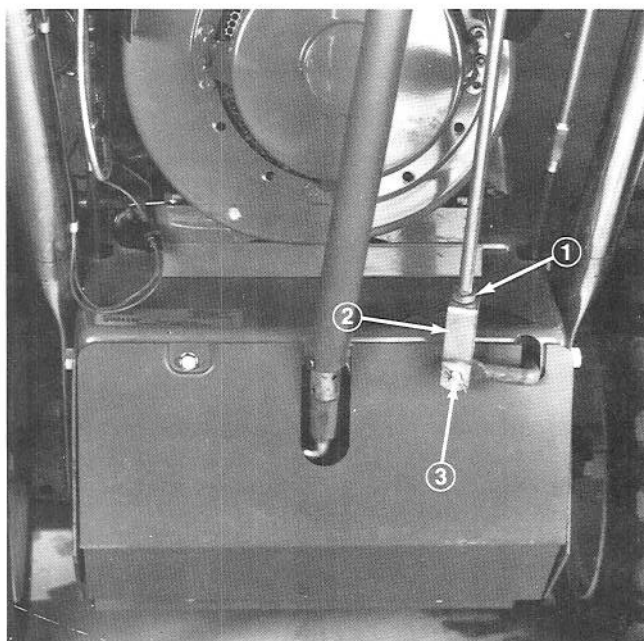

Figure 39
1. Loosen jam nut from clevis at bottom of auger drive control rod (Fig. 39). Remove cotter pin and clevis pin holding clevis to bent rod (Fig. 39).
2. Rotate clevis (Fig. 39) counterclockwise — out — to increase belt tension. By contrast, rotate clevis clockwise — in — to decrease belt tension.
3. Connect clevis to belt rod with clevis pin and cotter pin (Fig. 39). Tighten jam nut against top of clevis (Fig. 39).